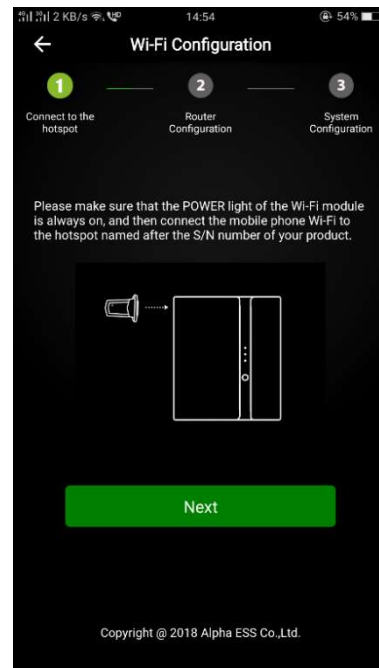

Figure 4.3 Hardware Connection
Step 2: After that please check whether your mobile phone has connected to the system hotspot, as shown in Figure 4.3.